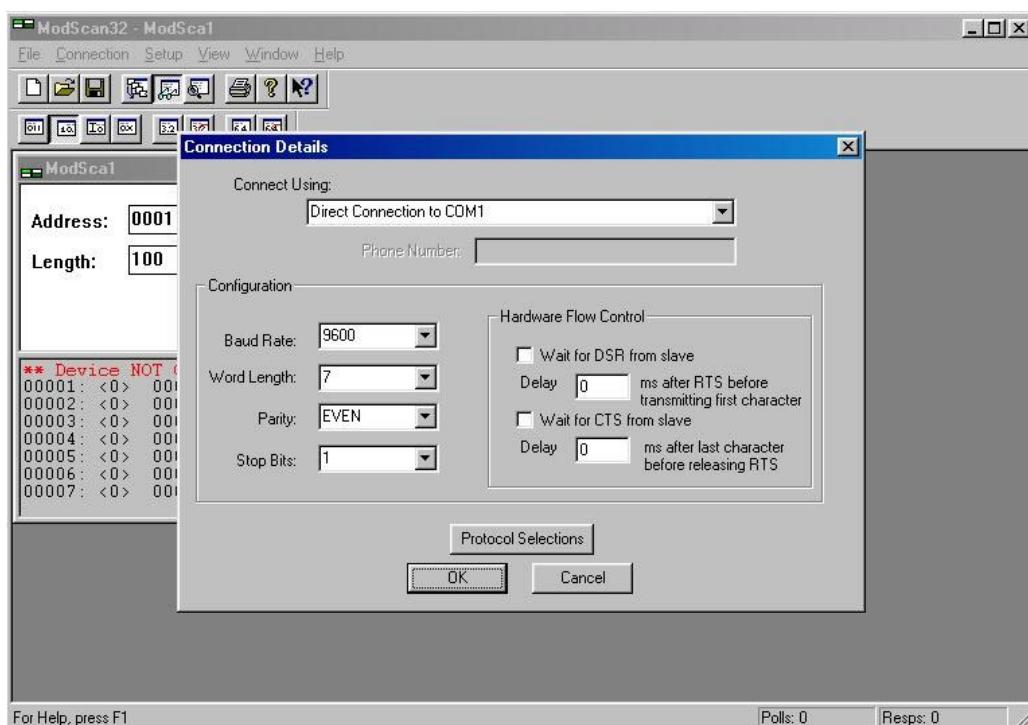

FIGURE 6. TP-78 NETWORK CONNECTION DETAILS DIALOG BOX
1. From the tool bar, select Connection → Connect. The Connection Details dialog box is displayed (see Figure 6). The Device Id is 1.